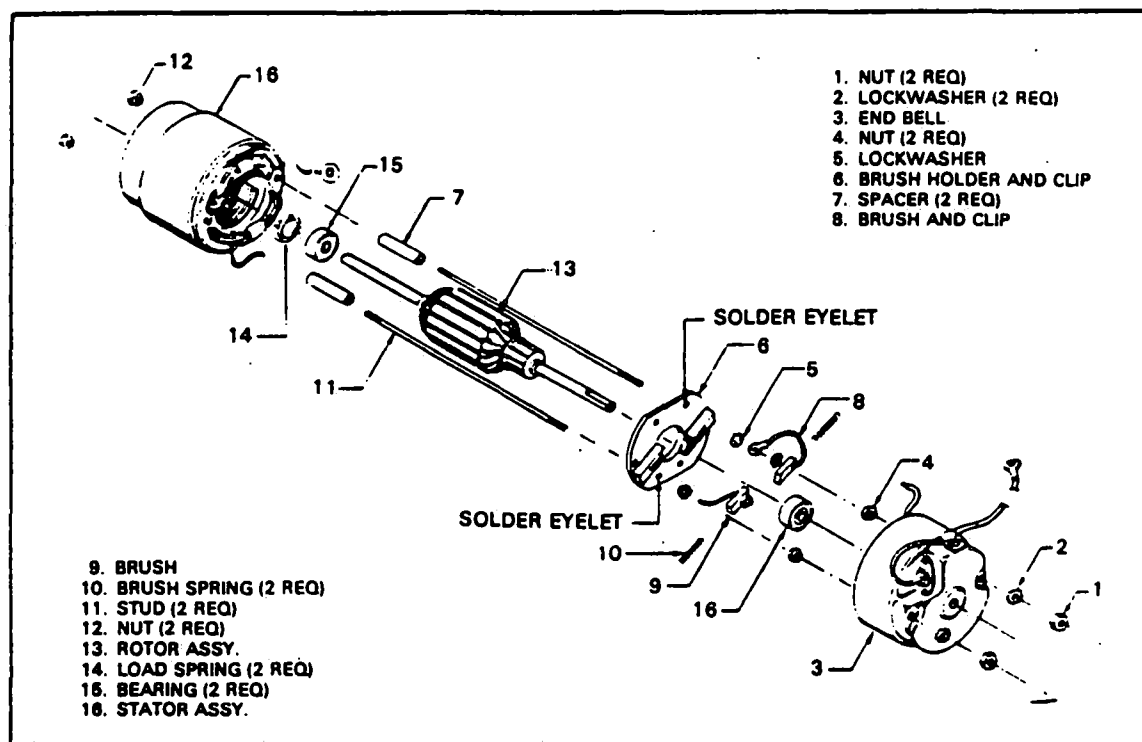

Figure 13-12. Ventilating Air Blower Motor
**13-60. VENTILATING AIR BLOWER MOTOR OVERHAUL.** An overhaul kit, PAC Part No. 754 306, is available for the ventilating air blower motors. This kit contains new bearings, brushes, and other parts required for installation. To overhaul the motor, proceed as follows: (Refer to Figure 13-12.)
a. Remove the two nuts (1) from the end of the motor and pull the end bell (3) off far enough to permit unsoldering of the capacitor lead from the eyelet on the brush holder insulator. Remove the end bell (3).
b. Remove the two nuts (12) from the other end of the motor and pull the two long studs (11) out of the stator (16) without disturbing the two nuts (4) which are threaded part way down to center the studs in the stator.
c. Pull the brush holder (6) out far enough to unsolder stator leads from the eyelets, then remove the brush holder assembly and brushes. If the stator does not have flexible leads to the solder eyelets, cut leads off close to the windings and solder in new leads of flexible stranded wire. This will prevent possible future failure due to vibration.
- d. Pull the rotor (13) out of the stator (16). The bearings will remain on the rotor shaft.
- e. Remove the load springs (14) from inside the stator (16).
- f. Clean the shaft and pull the bearings off the shaft of the rotor (13) with a bearing puller, using anti-seize compound as a lubricant.
- g. Clean all parts with a soft bristle brush and blow off with compressed air. Sand commutator of rotor (13) if necessary, or turn down slightly. Do not attempt to repair a badly worn motor. Replace the entire assembly if major repairs are required.